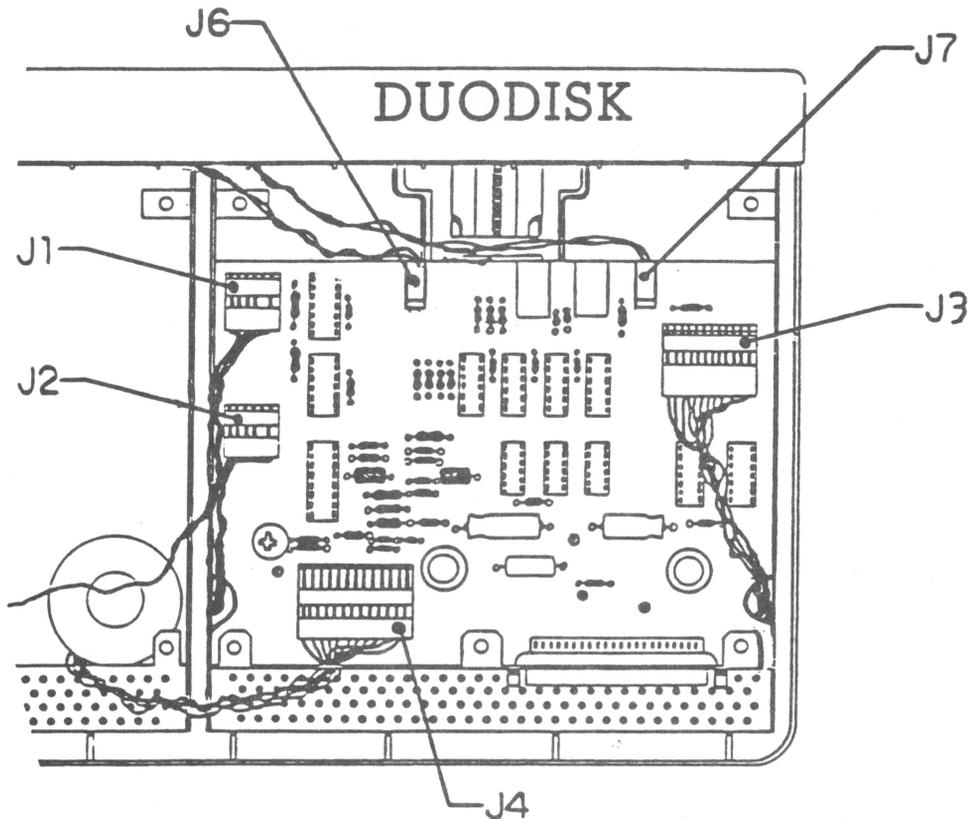

FIGURE 1
1. Remove both Disk Head connectors (Fig. 1, J1 and J2). Notice the position of the shrink tubing on the wire coming from drive 2.
2. Remove stepper motor connectors (Fig. 1, J4 and J3).
3. Remove the two LED connectors (Fig. 1, J6 and J7). Be sure to pull on the connector and not the wires.
11. Route the Disk Head wires (Fig. 1, J1) and stepper motor wires (Fig. 1, J3) through their respective cutouts.
13. Reconnect the stepper motor connector (Fig. 1, J3) for drive 1. If there is no key to indicate correct orientation, the side with "A2" should be face up. (There will be no wires for pins 1 and 2.)
14. Feed the drive 2 stepper motor cable through the cutout at the back of the shield and connect it (Fig. 1, J4).
15. Thread the Disk Head connector for drive 2 (Fig. 1, J2) through the cutouts in the shields and connect it. Make sure the shrink tubing fits in the cutouts.
16. Connect Disk Head connector for drive 1 (Fig. 1, J1).
17. Reconnect the LED connector for drive 2 (Fig. 1, J6) and for drive 1 (Fig. 1, J7).